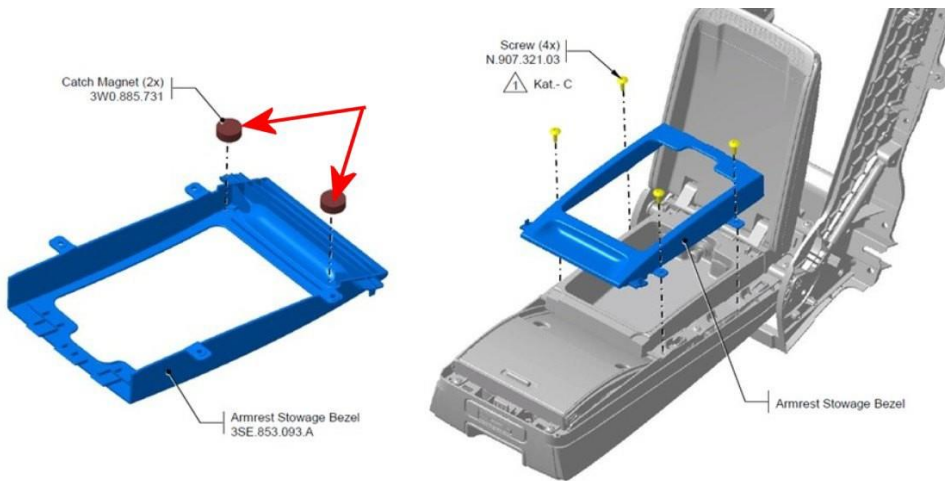

Figure 2
NOTE: Currently there is no instruction within the repair manual, please refer to Figures 2 and 3 for clarification/instruction regarding disassembly and assembly of the rear arm rest
- The two catch magnets are located in the armrest stowage bezel (Figure 2)